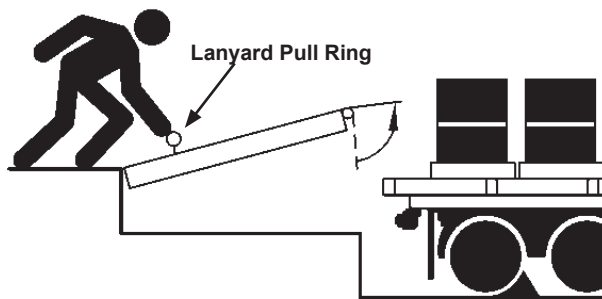

Figure 17
- a. Raise the platform by pressing and holding the RAISE button or lightly pulling and holding lanyard pull ring (see Figure 17).